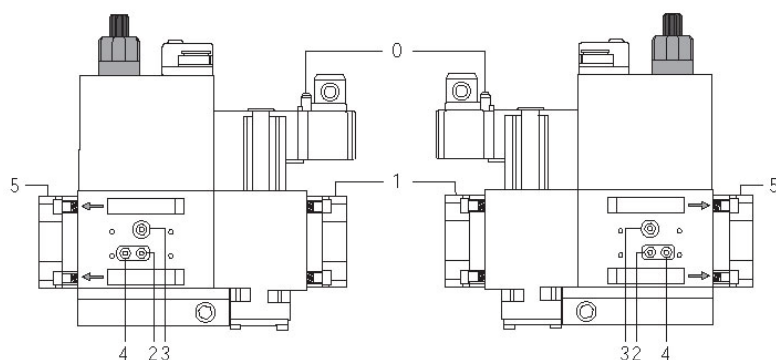
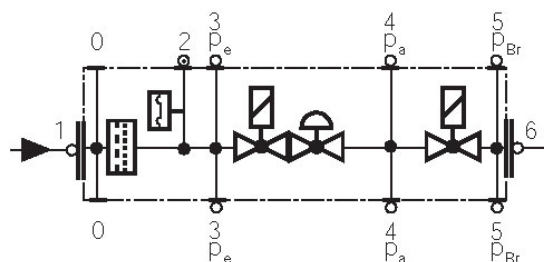

Fig. 38
Fig. 39
- Change the filter if the pressure difference between pressure connection 1 and 2 (Fig. 38-Fig. 39)  $\Delta p > 10$  mbar.
- Change the filter if the pressure difference between pressure connection 1 and 2 (Fig. 38-Fig. 39) is twice as high compared to the last check.